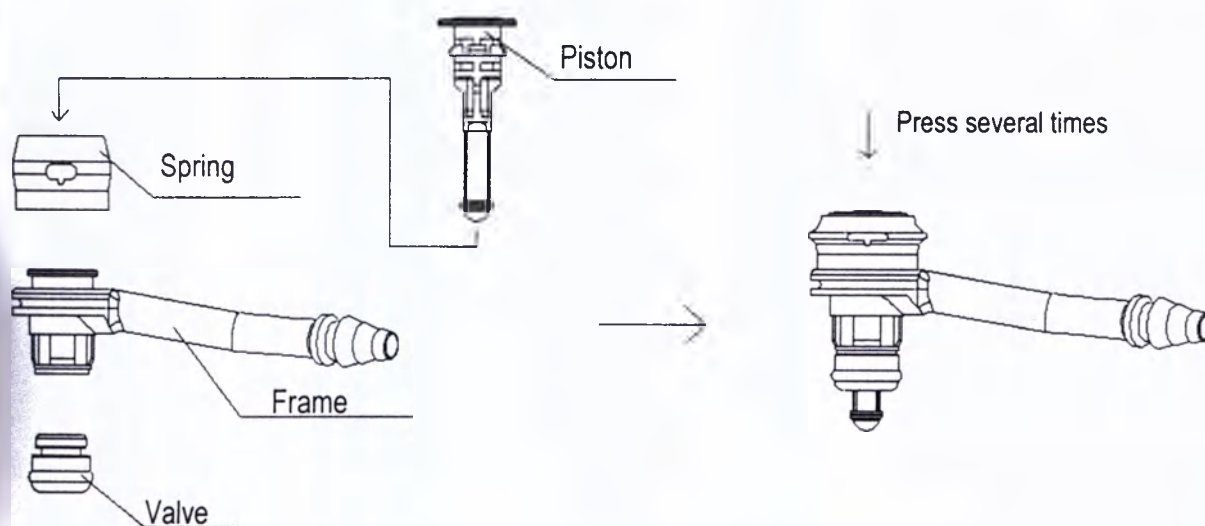

Figure 6. Assembling of the exhaust valve
- Insert the valve into the frame, as it's shown on figure 6.
- Insert the piston into the elements according to figure 6 and press several times.
5.2) Check-out after assembling (Figure 6)